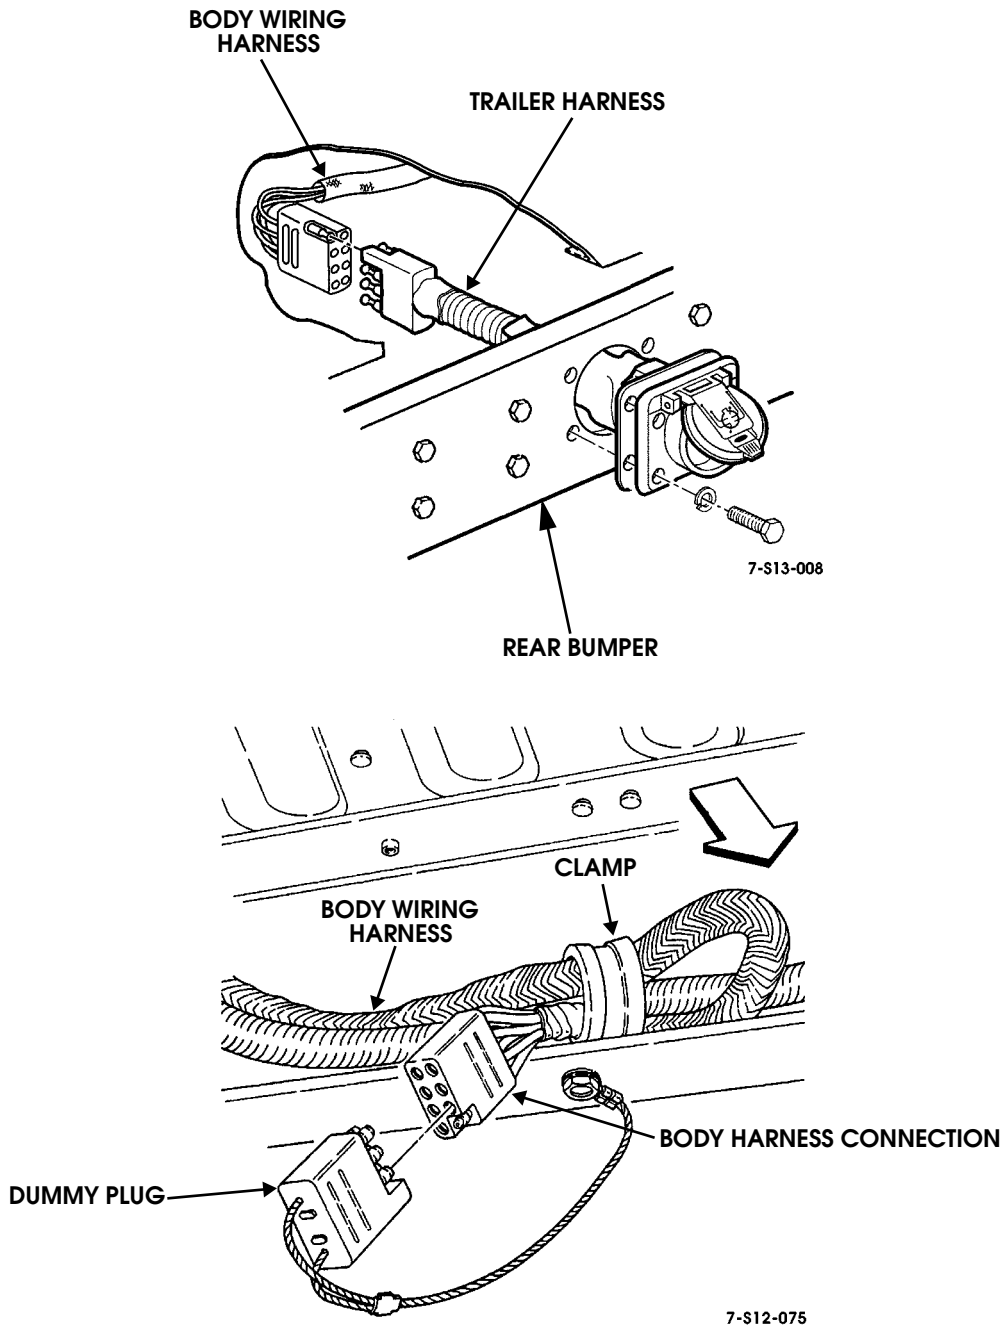

Figure 12-92: Trailer Jumper
- running light connections (Figure 12-92)
1. Remove body wiring harness connector at fuel tank sender harness (Figures 12-92 and 12-93).
2. Remove body wiring harness connector from trailer harness connector if installed. If no trailer harness exists, remove dummy plug from body wiring harness trailer connector (Figure 12-92).